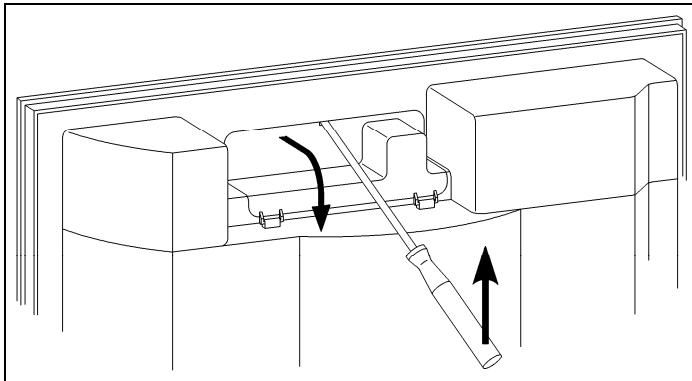

Figure 5-10: Light Cover Access and Removal (CVA 610)
2. Unclip the light cover (see Figure 5-10) and remove it.